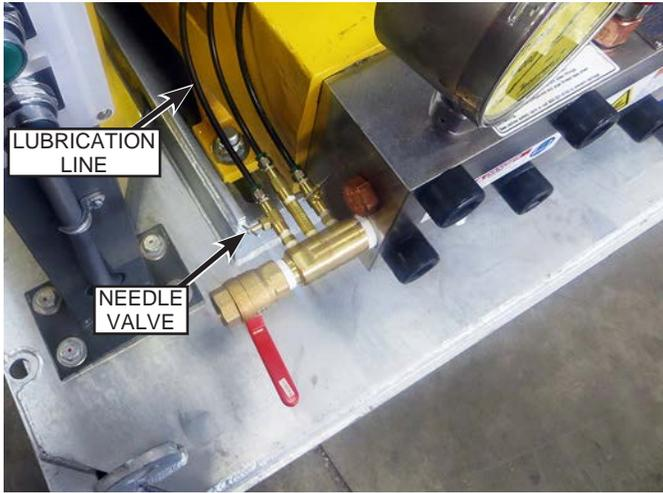

Fig. 29: Needle Valve Adjustment (40K)
- Adjust the needle valves (Fig. 29) to increase the water flow. Turning the needle valves counter-clockwise will increase flow. Proper flow is achieved when a small stream (more than a drip) is visible without splashing past the deflectors onto the pony rods.